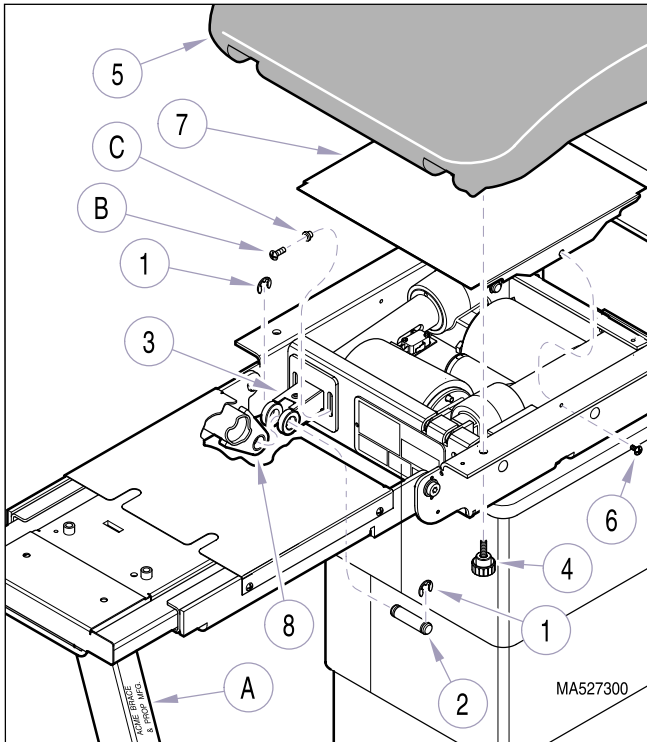

Figure 4-12. Foot Actuator Removal / Installation
(1) If possible, raise foot section to its maximum height; then place supports (A, Figure 4-12) under foot section.
- (2) Install limit switch (3) on foot actuator (9); then secure with two screws (16), and two nuts (17).
- (3) Insert shaft of foot actuator (9) thru hole in seat weldment (22).
- (4) Connect two actuator wires (15) to terminals of foot capacitor (13).
- (5) Install cap (14) on foot capacitor (13).
- (6) Position bottom of foot capacitor (13) on mounting bracket (12); then push top of capacitor inward. Using a screwdriver, force tab (B) of mounting bracket over the catch (C) of cap (14). Make sure capacitor is held firmly in place.
- (7) Connect foot actuator wire (10) to wire (11).
- (8) Install ground wire (8) onto foot actuator (9) and secure with nut (7).
- (9) Connect two wires (2) to proper terminals of limit switch (3).
- (10) Secure wires together as a bundle using two or more cable ties (1).
- (11) Install clevis pin (6) and secure with two klip-rings (5); then install hole plug (4).
- (12) Install electrical cover (7, Figure 4-12) and secure with two screws (6).
- (13) Plug table power cord into wall outlet.
- (14) Using foot/hand control, extend foot actuator (3) until actuator shaft aligns with foot section weldment (8).
- (15) Install clevis pin (2) thru foot actuator (3) and foot section weldment (8) and secure with two klip-rings (1); then remove supports (A).
- (16) Install seat upholstery (5) and secure with four knobs (4).